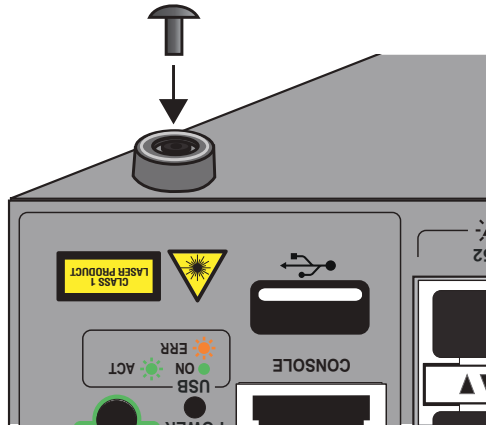

Figure 21. Inserting the Rivet into the Bumper Foot
4. Insert the rivet to secure the bumper foot to the base. Refer to Figure 21 on page 58.